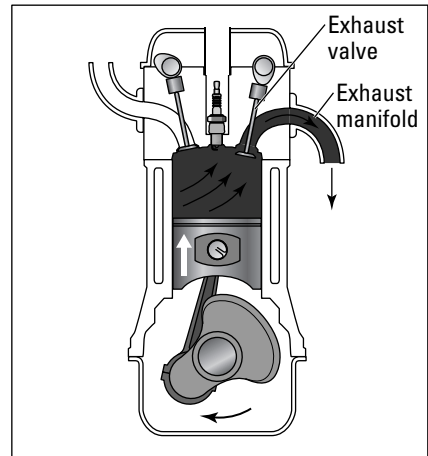

Figure 7-14: The exhaust stroke.
4. **Exhaust stroke:** See Figure 7-14. The piston moves *up* again, pushing the burned gases up with it. Then the **exhaust valve** opens and lets the burned gases out into the **exhaust manifold**. From there, the burned gases travel through the **exhaust system** (which includes antipollution devices), through the **muffler**, and out the **tailpipe** into the environment.